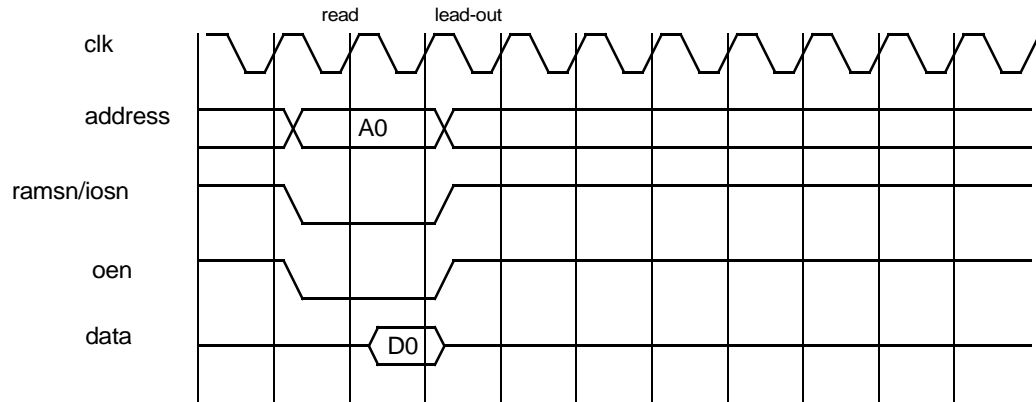
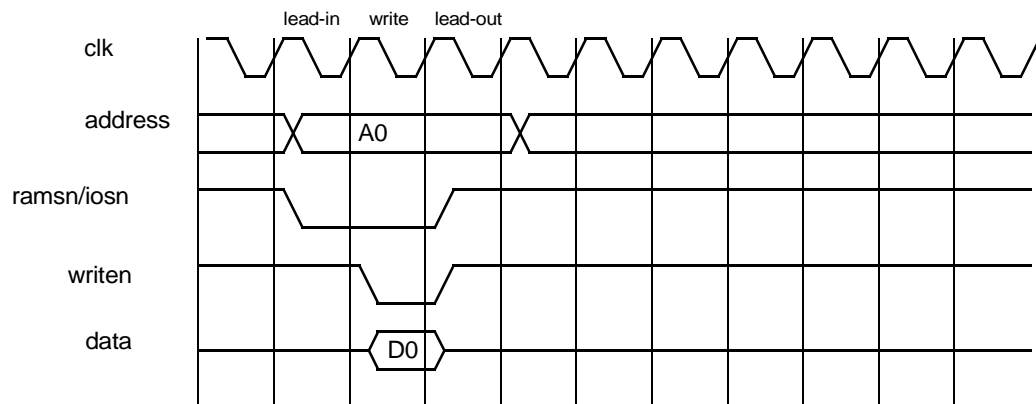

Figure 245. 32-bit PROM/IO read cycle
Figure 246. 32-bit PROM/IO write cycle
For the PROM and I/O operations, a number of waitstates can be inserted to increase the read and write cycle. The number of waitstates can be configured separately for the I/O and PROM address ranges, through a programmable register mapped into the APB address space. After a reset the waitstates for PROM area is set to its maximum (15). Figure 245 and figure 246 show timing diagrams for the PROM read and write accesses.
Read accesses to 32-bit PROM and I/O has the same timing, see figure 245
The write access for 32-bit PROM and I/O can be seen in figure 246